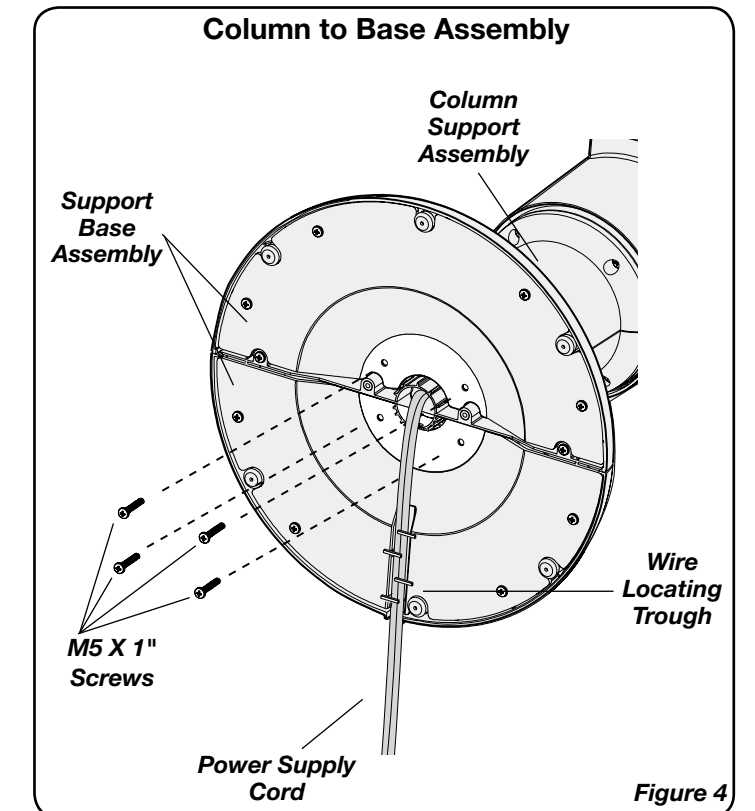

Figure 4
6. Align the **Support Base Assembly** with the **Column Support Assembly**, noting that the cord channel on the bottom of the support base should be towards the back of the Fan. Assemble the **Support Base Assembly** to the **Column Support Assembly** with (4) 1" Long M5 Screws. Gently pull any excess slack of the **Power Supply Cord** and place it in the **Wire Locating Trough**. (*Figure 4*)